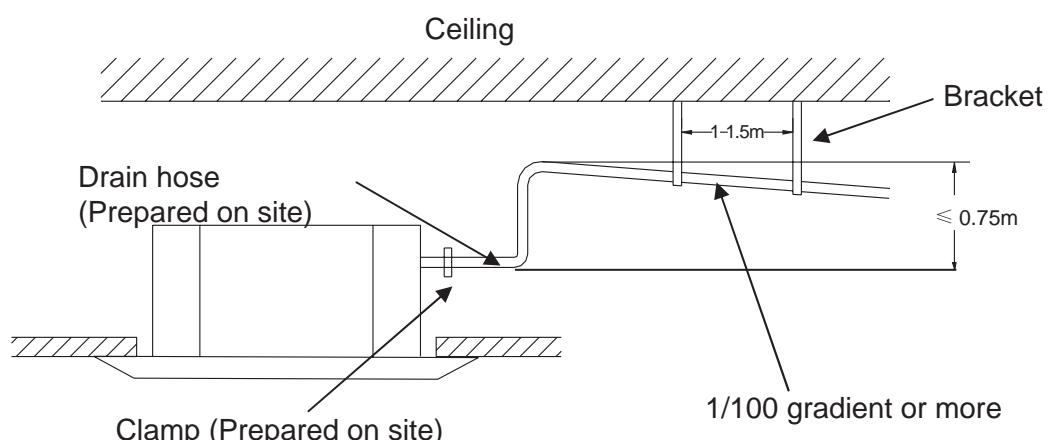

Fig.13
2. Make sure the drain pipe has a downward gradient (no less than 1/100) and there are no water traps (Fig.13).
3. To hold the drain pipe, space bracket every 1 to 1.5m. (Fig.13)